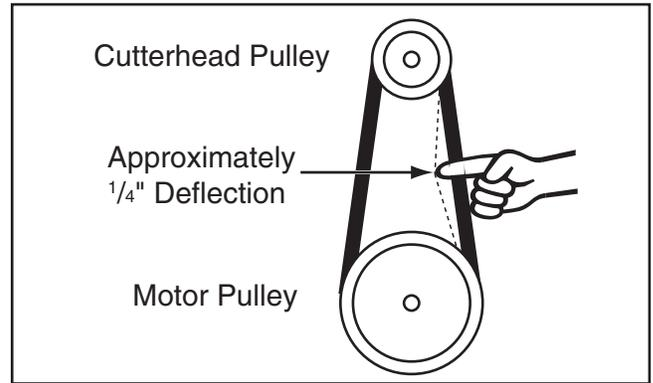

Figure 88. Correct belt deflection when properly tensioned.
5. Press belt with moderate pressure in center to check belt tension. Belt is correctly tensioned when there is approximately 1/4" deflection when pushed, as shown in **Figure 88**.